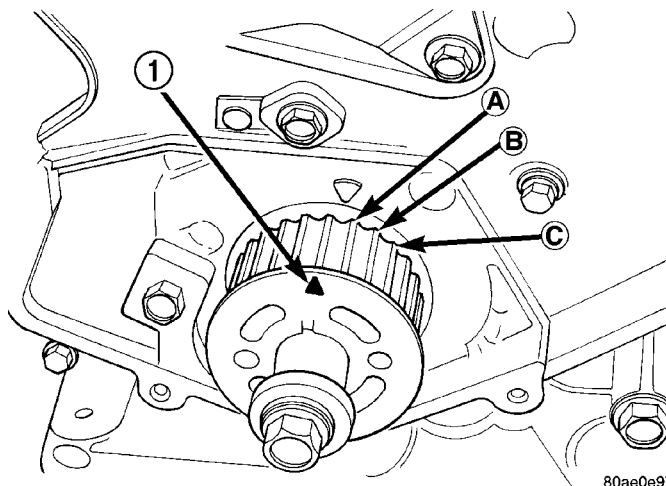

Fig. 19 Crankshaft Sprocket Position
(1) Clean the cylinder head and cylinder block sealing surfaces (Refer to 9 - ENGINE/CYLINDER HEAD - CLEANING).
(2) Apply Mopar® Gasket Sealant (aerosol can) to both sides of the new cylinder head gasket.
(3) Position a new cylinder head gasket on the locating dowels.
(4) Position crankshaft sprocket to TDC, then rotate crankshaft until mark is three teeth before TDC (Fig. 19). This will ensure that no piston-to-valve contact occurs upon installation of cylinder head in the event of camshaft rotation.